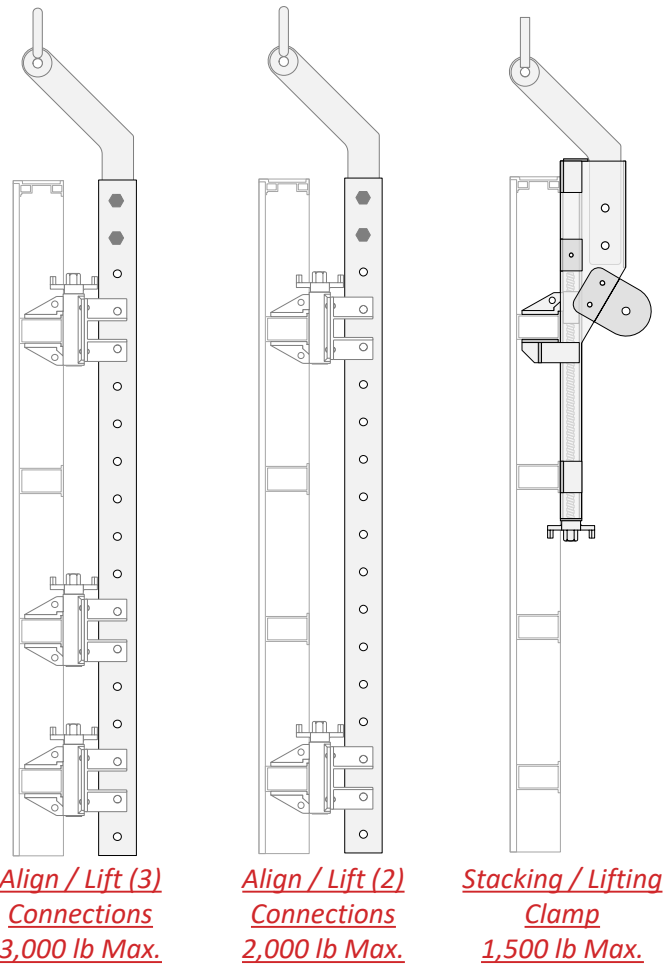

Figure 1. Alignment Bar and Stacking / Lifting Clamp. Allowable loads noted above **meet or exceed a 5 to 1 safety factor.** (Reference certification on page two)
- To determine the number of pick locations, calculate the total weight of the gang to be lifted and divide by the rating of the Lifting Assembly to be used and add one for any remaining fraction. (See Assembly Ratings in Figure 1).